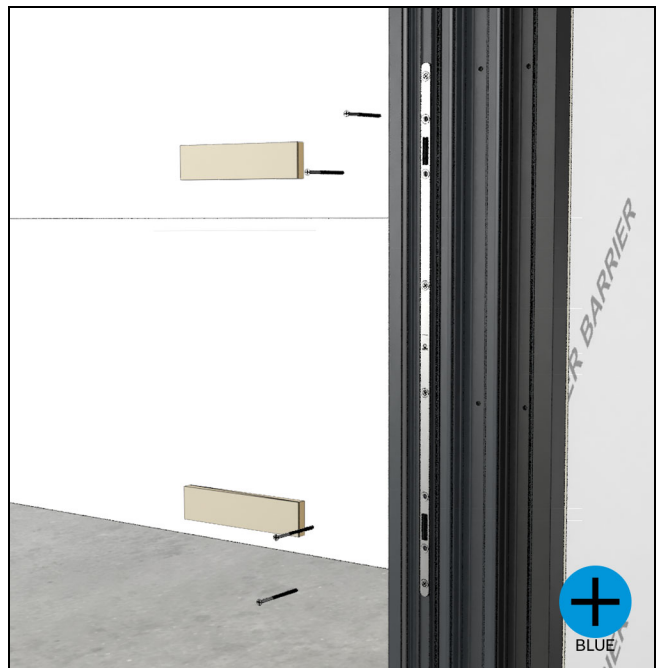

Figure 77
12. Shim and fasten with #8x3" (76) screws provided. See Figure 77.